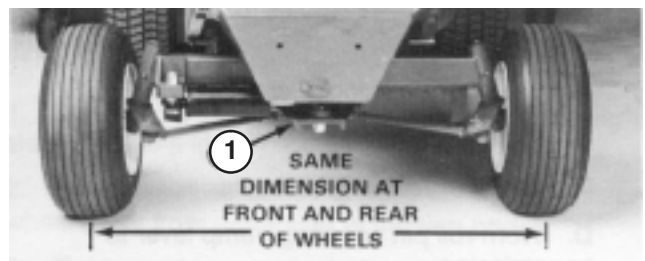

Figure 42
2. Loosen the jam nuts on both tie rods Adjust both tie rods until center-to-center distance at front and back of rear wheels is the same (Fig. 42).